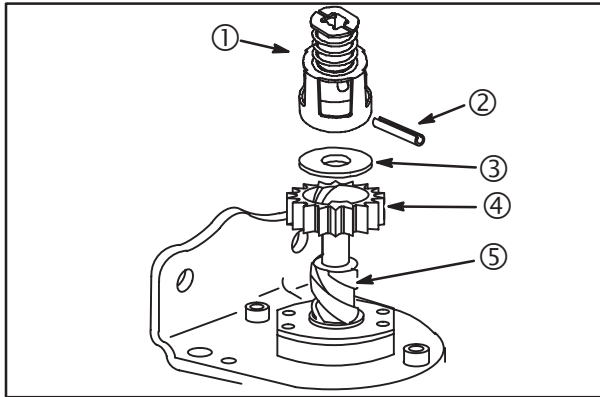

Fig. 11
1. Assemble clutch drive (5) to starter shaft. Rotate clutch until it drops into place, **Fig. 11**.
2. Install pinion gear (4) with beveled side of teeth UP.
3. Install washer (3) and retainer (1).
4. Install NEW roll pin (2).